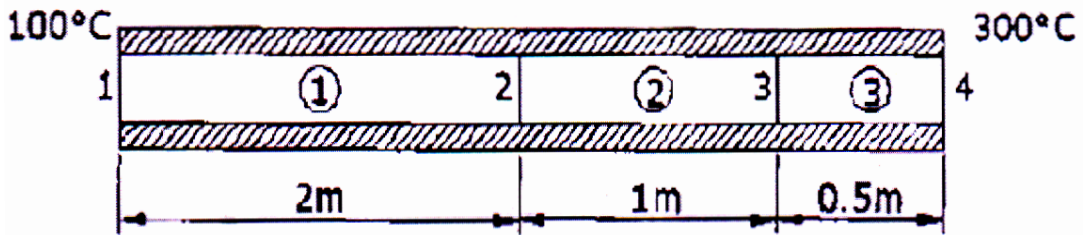

Fig. 4
- b) For a one dimensional composite bar shown in Fig. 4, determine the interface temperatures. For element 1, let $K_{xx} = 200 \text{ W/m}^\circ\text{C}$; for element 2, let $K_{xx} = 100 \text{ W/m}^\circ\text{C}$; and for element 3, let $K_{xx} = 50 \text{ W/m}^\circ\text{C}$; Let $A = 0.1 \text{ m}^2$. The left end has a constant temperature of 100°C and the right end has a constant temperature of 300°C . [12]